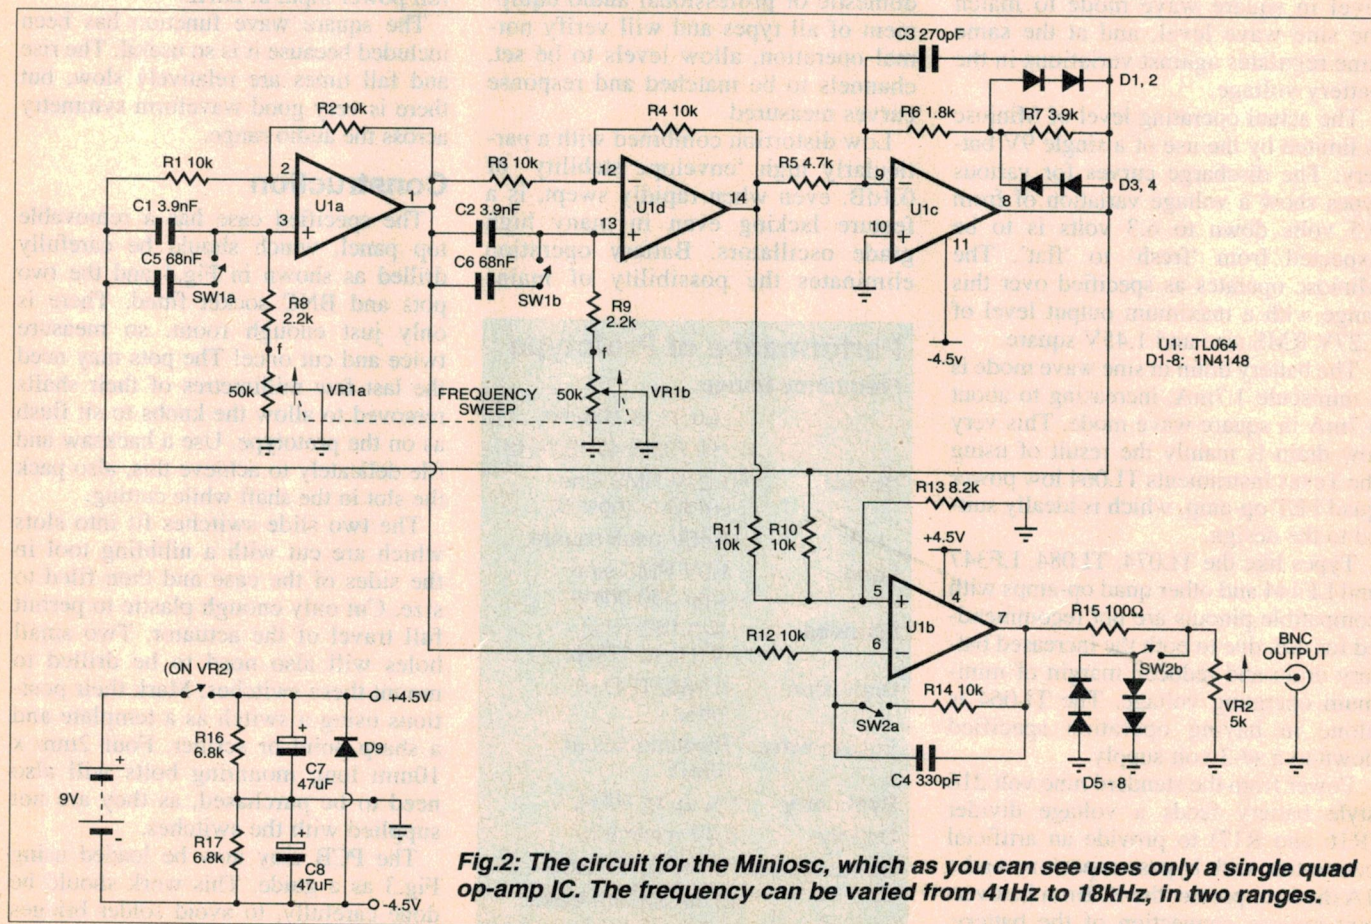

Fig.2: The circuit for the Miniosc, which as you can see uses only a single quad op-amp IC. The frequency can be varied from 41Hz to 18kHz, in two ranges.
Fig.2 shows the circuitry used for the preamp's remote volume control stage. As you may have noticed, this is virtually identical to that used for our 'Infrared remote volume controller' presented in the July 1996 issue of *EA*. This uses a relatively small number of low-cost parts, employs an infrared (IR) code system that is compatible with 'learning' IR transmitters, and generates no detectable interference signals in the audio path.
Referring to the main circuit (Fig.2) there are only two control pots (RV1 and RV2) and two DPDT switches. The output level pot includes an on-off switch and is of logarithmic taper to allow easier setting at low (i.e., millivolt) levels. This pot is